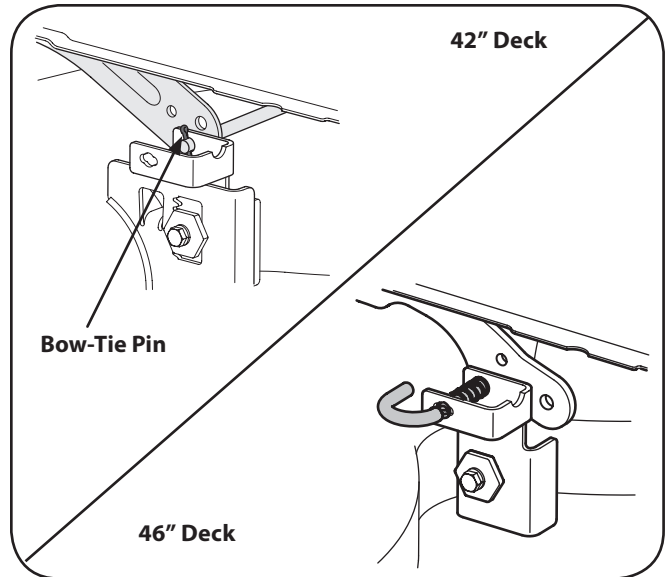

Figure 7-2
5. **On 42" Decks:** Looking at the cutting deck from the left side of the tractor, locate the bow-tie pin that secures the deck support rod on the rear left side of the deck. See upper half of Fig. 7-2. Remove the bow-tie pin that secures the deck support rod, and carefully remove the deck support from the deck lift arm.
- On 46" Decks:** Looking at the cutting deck from the left side of the tractor, locate the deck release handle. See lower half of Fig. 7-2. Pull the deck release handle and carefully release the deck from the deck lift arm.